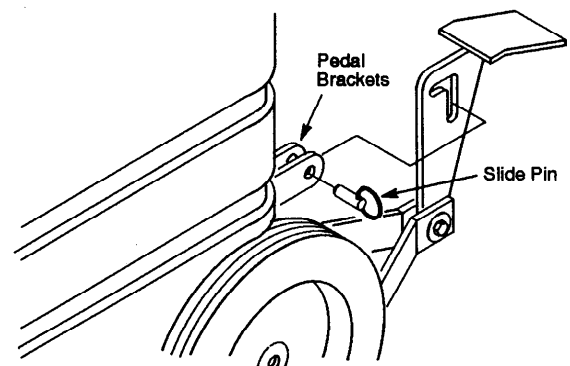

FIG. 4.
2. Position pedal between pedal brackets at rear of machine. Insert slide pin through brackets and pedal. (Figure 4)